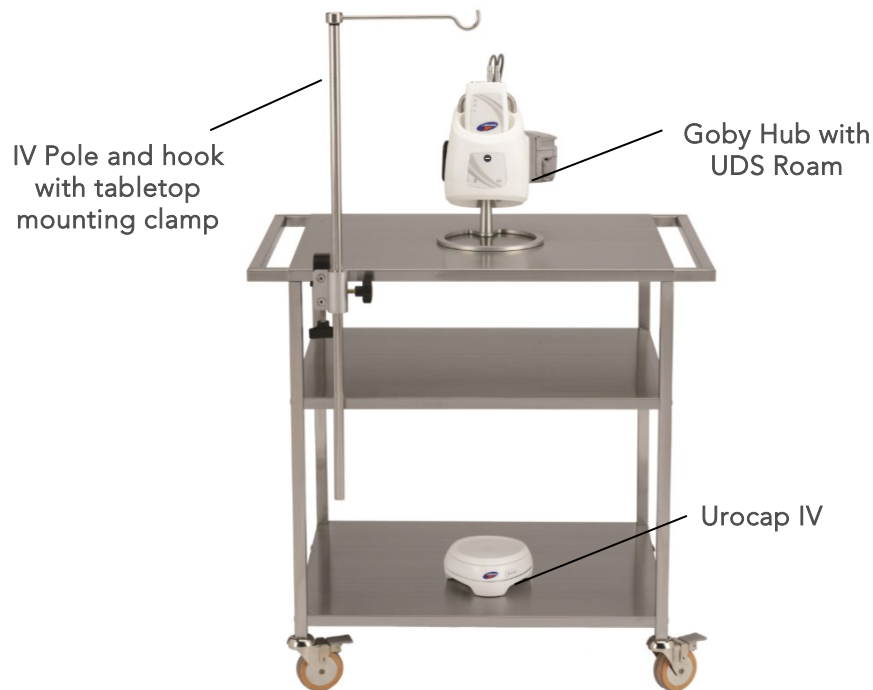

Figure 8: Goby™ on Tabletop Setup
- Place the **Goby™** Hub with the **Goby™** Hub foot onto the tabletop. Attach the IV pole tabletop mounting clamp securely to the edge of the table (Figure 8). Place the IV pole into the clamp and secure the IV pole with the thumbscrew.